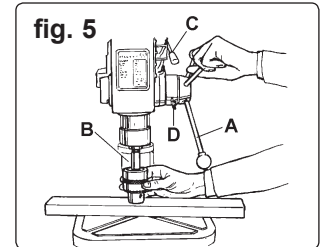

fig. 5
- 5.1.9. Screw the three feed handles and knobs to the hub of the pinion shaft (fig.5.A).
- 5.1.11. Insert thinner tapered end of arbor (fig.5.B) into drill spindle, fit chuck to protruding end of arbor and hold in place.
- 5.1.12. Turn feed handles to bring nose of chuck down onto wood (fig.5). Firmly pull on feed handle to seat arbor taper in spindle and chuck.
- 6.4.1. With the belt tension lock screws (fig.6.A) loose and using hand pressure on the tensioning lever (fig.5.C), set tension so that belt give is no more than 1/2" (13mm). Tighten lock screws. Note that there are two lock screws, one each side of the head.
- 6.6.2. Loosen locking screw (fig.5.D) and set the scale to the depth required. Tighten locking screw.